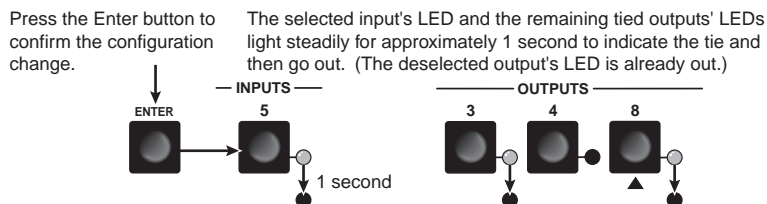

Figure 3-17 — Press the Enter button
4. Press and release the Enter button (figure 3-17).